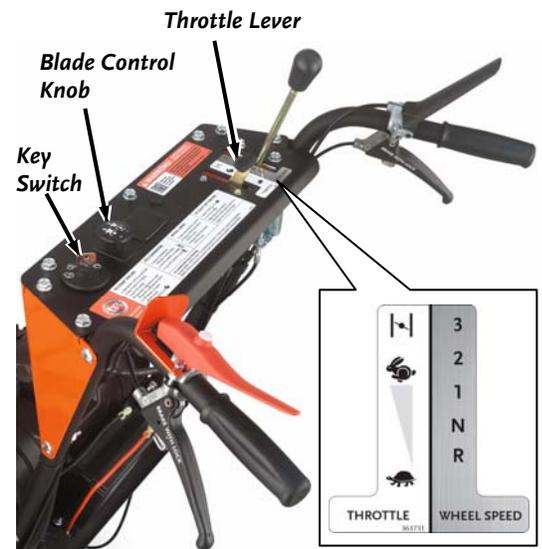

Figure 20
1. Stop the Blade by pushing down  on the Blade Control Knob (Figure 20).
1. Disengage the Blade by pushing DOWN  on the Blade Control Knob (Figure 20).
1. Stop the Blade by pushing down  on the PTO Knob (**Figure 20**)